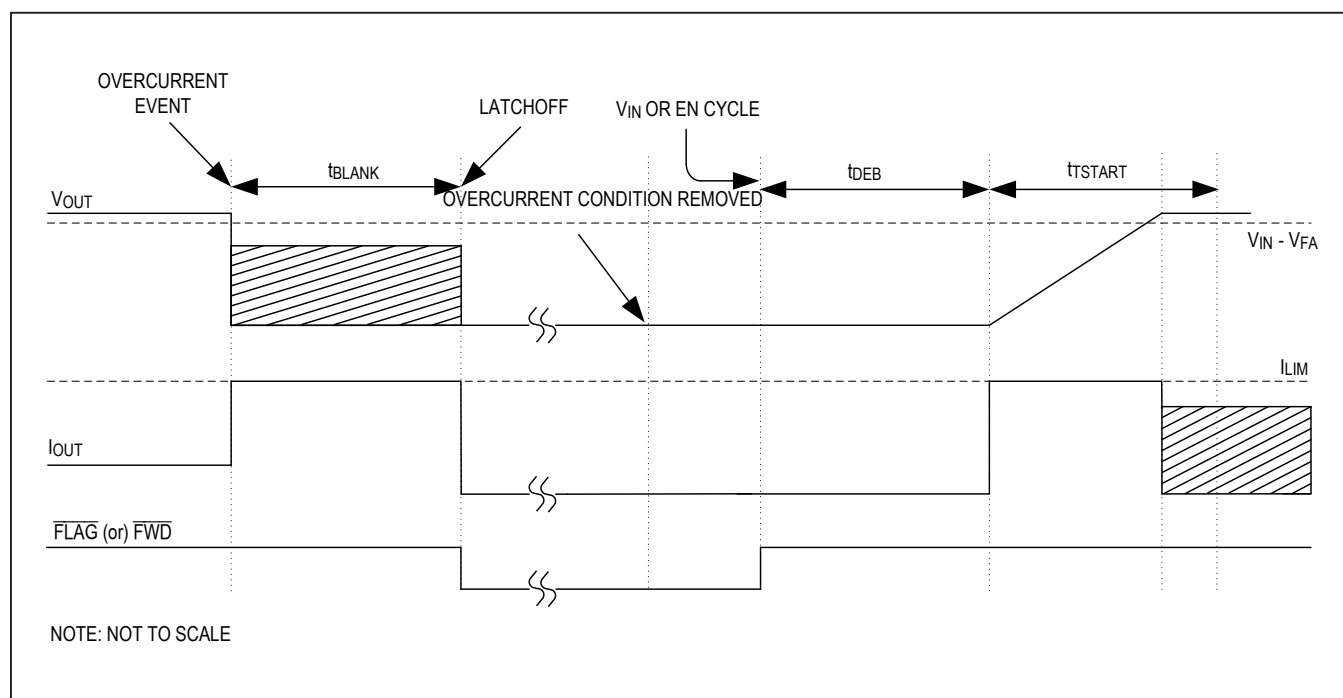

Figure 9. Overcurrent Fault Timing Diagram in Latchoff Current-Limit Mode
In latchoff current-limit mode during startup, the device operates in continuous current-limit mode until t_{TSTART} . The timer t_{TSTART} resets if the output voltage V_{OUT} reaches $(V_{IN} - V_{FA})$ within t_{TSTART} and then the normal operation continues. If the overcurrent condition is present for longer than startup blanking time (t_{TSTART}), the output NFET Q2 is turned off and latched, the timer t_{TSTART} resets, and the \overline{FLAG} (or \overline{FWD}) pin asserts. To reset the device, either toggle the enable control signal (EN) or cycle the input voltage. Figure 9 depicts a typical startup behavior in latchoff current-limit mode.
In latchoff current-limit mode during normal operation, if the device enters an overcurrent condition, the t_{BLANK} timer starts. The t_{BLANK} timer resets as and when the overcurrent condition resolves before the t_{BLANK} duration has elapsed, and then the normal operation continues. If the overcurrent condition exists for the t_{BLANK} duration or if the device junction temperature reaches T_{JC_MAX} , the output NFET Q2 is turned off and latched, the t_{BLANK} timer resets, and the \overline{FLAG} (or \overline{FWD}) pin asserts. To reset the device, either toggle enable control signal (EN) or cycle the input voltage. Figure 9 depicts a typical operating behavior in latchoff current-limit mode.